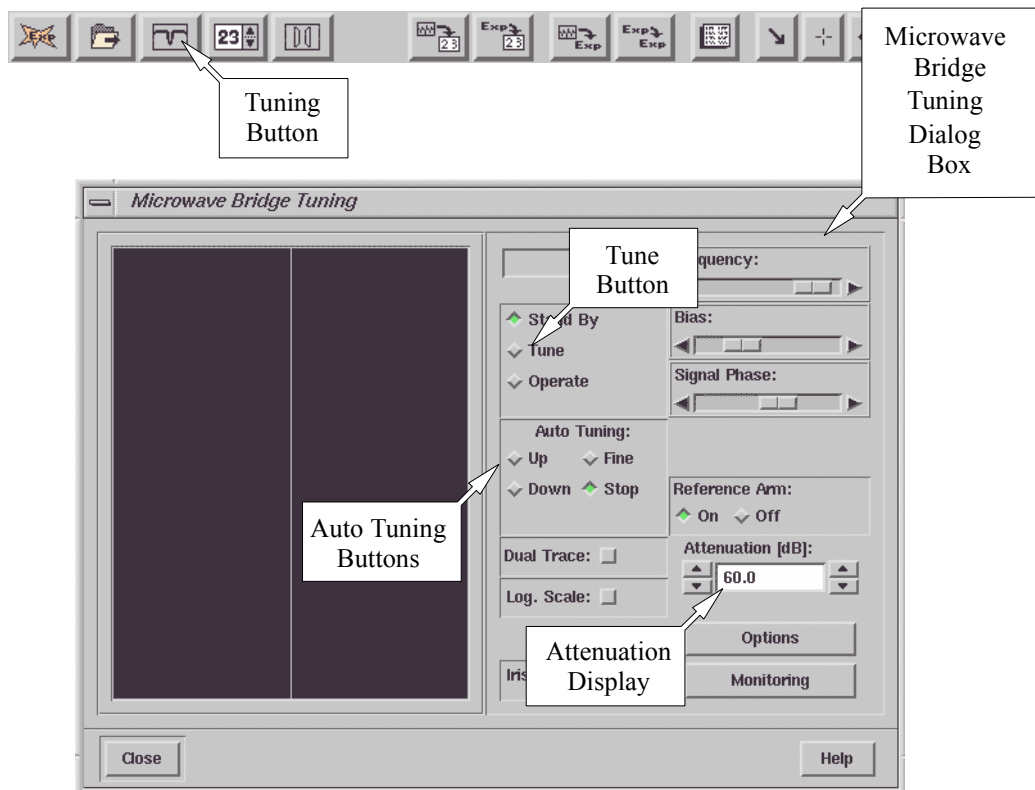

Figure 3-8 The Microwave Bridge Tuning dialog box.
1. **Open the Microwave Bridge Tuning dialog box.** Click the Tuning button in the monitoring panel. The Microwave Bridge Tuning dialog box will then appear. (See Figure 3-8.)
There are three states or modes for the microwave bridge: StandBy, Tune, and Operate. When you connect to your spectrometer, the bridge is in Stand By, indicated by a green Stand By button. (See Figure 3-8.) If you have been acquiring spectra already, your bridge will probably be in Operate.
3. **Set the microwave attenuator to 30 dB.** The microwave attenuation is set by clicking the arrows on either side of the attenuation display in the dialog box. (See Figure 3-8.) The arrows on the left change the attenuator in 10 dB steps; those on the right in 1 dB steps.
7. **Tune the bridge and cavity.** Pressing either the Up button or Down button of Auto Tune starts the automatic tuning procedure. (See Figure 3-8.) The Up button starts by scanning the microwave frequency up in search of the cavity dip (or frequency where the cavity resonates). The Down button starts by scanning the microwave frequency down in search of the cavity dip. If you are not sure if the search should start up or down, do not worry. The frequency will be scanned until its limit is reached and then scan in the other direction until the cavity dip is found. The Auto-Tune routine adjusts the frequency, phase, and bias of the bridge and the coupling (matching) of the cavity. If there is an error message, try manual tuning described in Section 7.1. If you still have difficulty in tuning, it usually means that you have a lossy or conductive sample. Refer to Chapter 9 for trouble shooting.
8. **Close the Microwave Bridge Tuning dialog box.** Click the Close button. The Microwave Bridge Tuning dialog box will then disappear. (See Figure 3-8.)